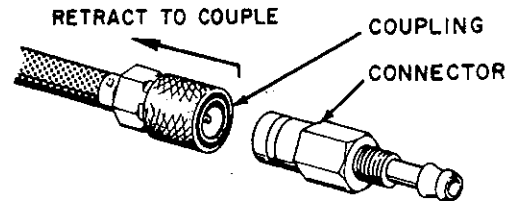

Figure 4. View of remote fuel tank connection.
- (1) Clean remote fuel tank coupling and connector at engine before joining. Slide collar back on coupling to connect coupling to connector. Rotate coupling several times to be sure coupling is well seated to the connector. (See Figure 4).